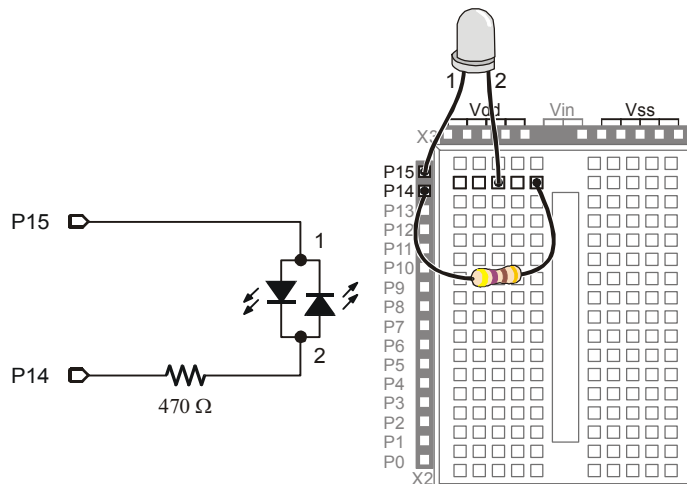

Figure 2-20
Controlling a bi-color LED with the BASIC Stamp requires two I/O pins. After you have manually verified that the bi-color LED works using the manual test, you can connect the circuit to the BASIC Stamp as shown in Figure 2-20.
- ✓ Connect the bi-color LED circuit to the BASIC Stamp as shown in Figure 2-20.